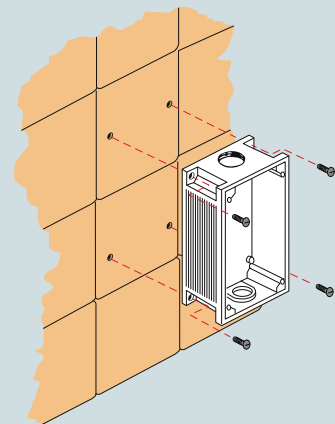

Figure 1 - Example of external mounting using the slots on the box.
- In triple boxes (Figure 1)
(Figure 1)